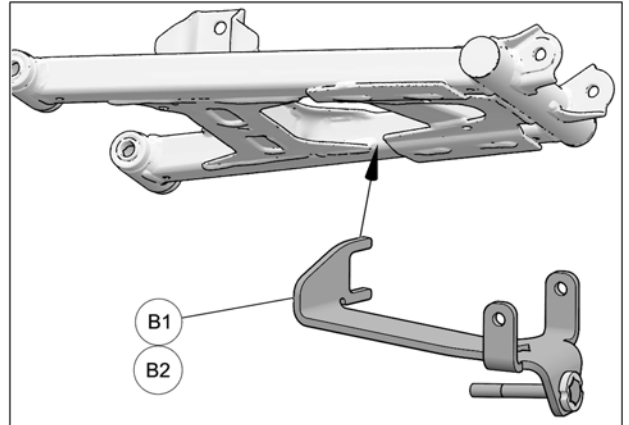

Fig. 7
6. Lift anchor bracket (**B1-B2**) up to lower suspension arm and hook C-shaped rear part of bracket on front-facing member of suspension arm as shown in Fig. 7